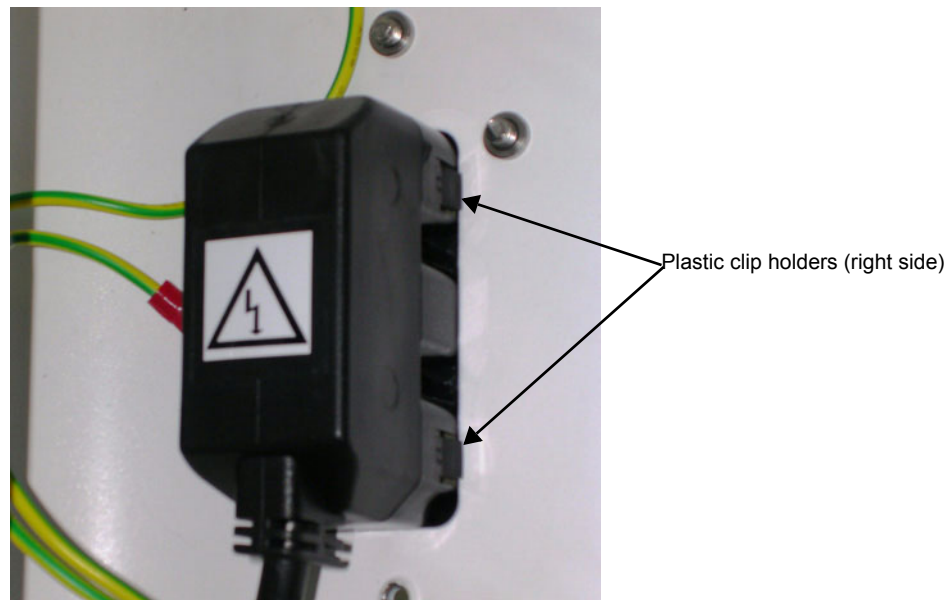

Figure 8-87 Peripheral Power Socket
- 4) Remove the Peripheral Power socket by squeezing the plastic clip holders inwards (see Figure 8-87).